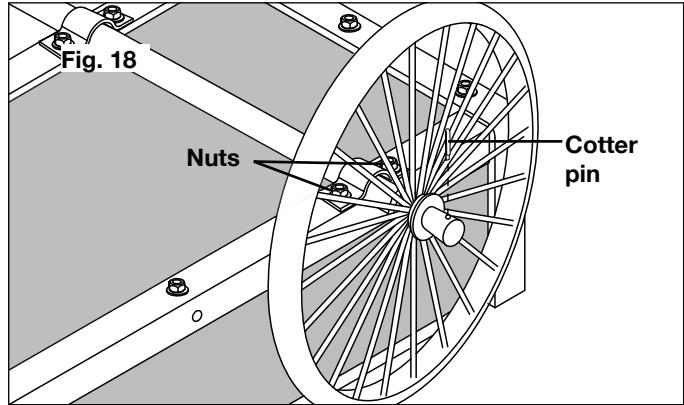

Fig. 18
19. Secure the wheel with another cotter pin on the outer hole at the end of the axle (Fig. 18).